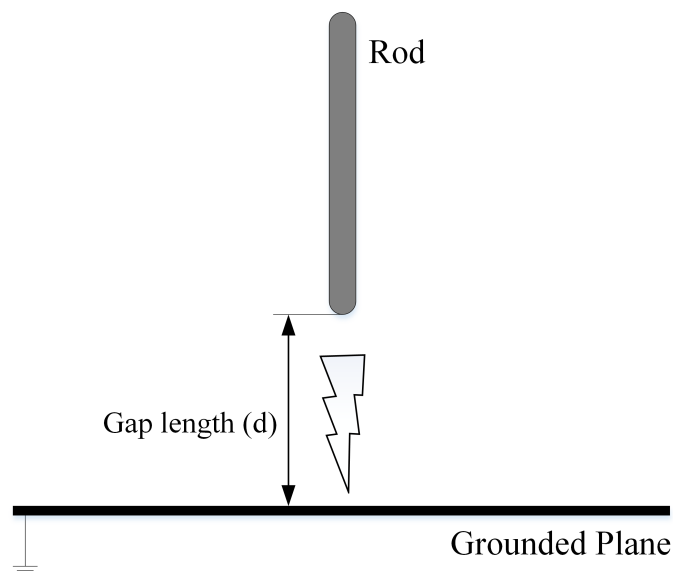

Figure 1: Electrical breakdown of a rod-plane air gap
- Electrical breakdown of gaps separated by two electrodes as shown in Figure 1.
For the given rod-plane electrode set-up shown in Figure 1, calculate the voltage required to breakdown a specified gap (d). The rod diameter is 28 mm and the plane is 140 mm by 140 mm. To determine the length of your gap (d), take the last digit of each of your student numbers as a group of two. Orientate the numbers to give you the largest number combination possible. Divide the number by 40 and multiply the answer by 10. For example, if your student numbers are 313258 and 222445, then